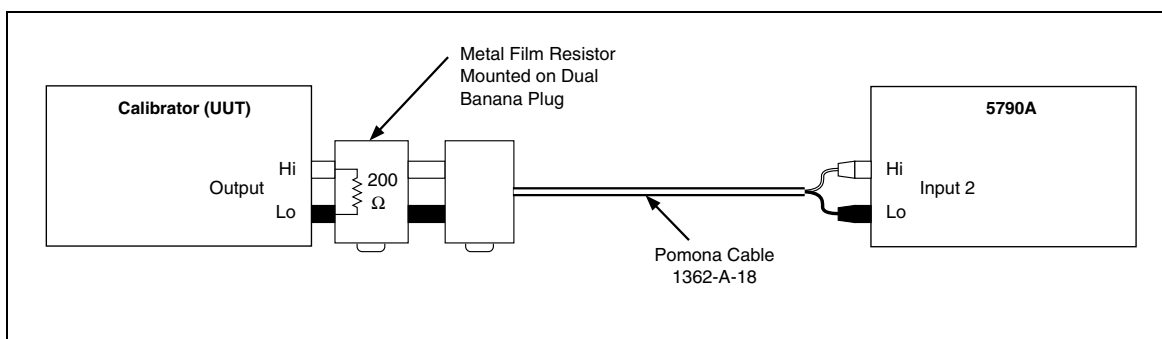

Figure 3-11. Alternating Current Test Setup 2 mA and 200 μ A
1. Connect the equipment as shown in Figure 3-11.